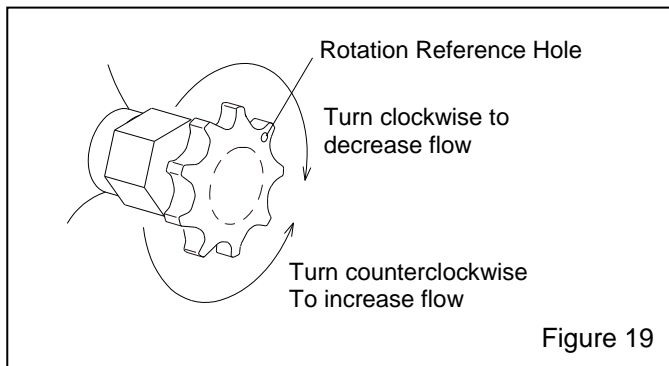

Figure 19
5.1 Abrasive Metering, Figure 19